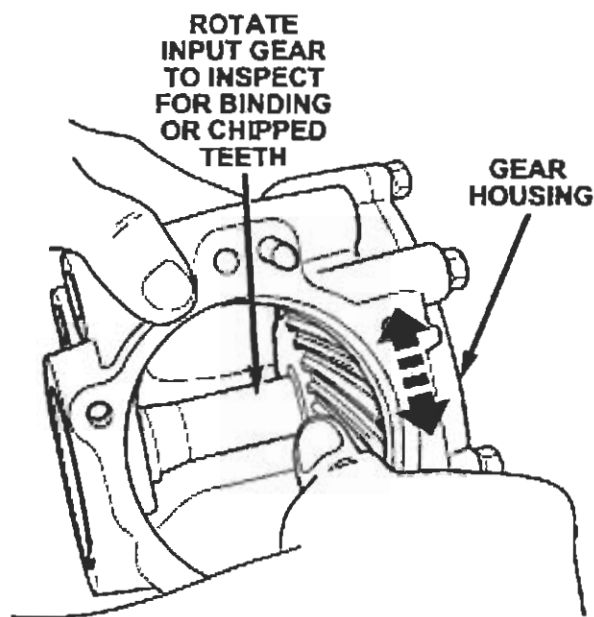

Figure 8
17. While holding the gear housing, rotate the input gear and note its condition (Figure 8).